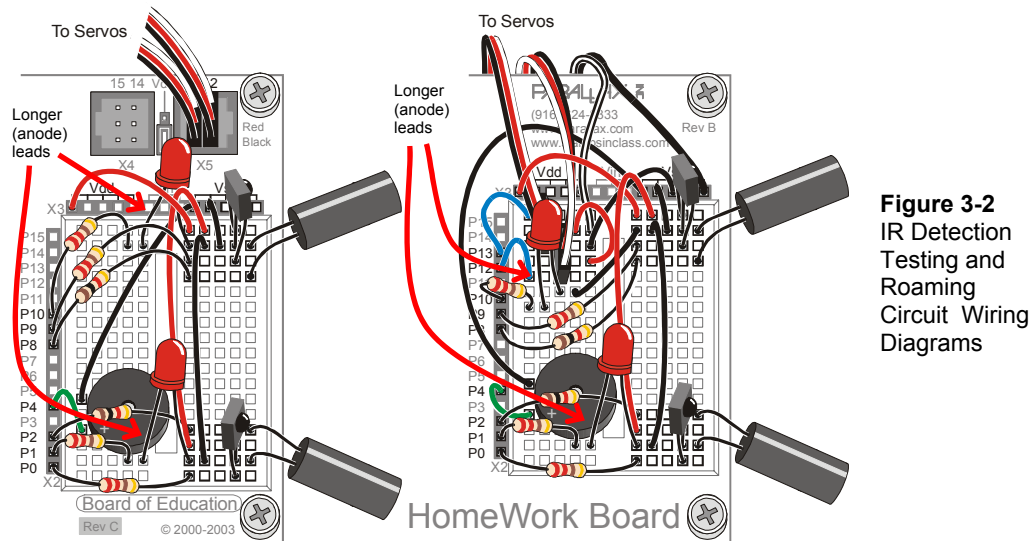

**Figure 3-2**
Figure 3-1 shows the circuits for IR detection and user indicators from *Robotics with the Boe-Bot*, Chapter 7, Activity #2, and Figure 3-2 shows a way to build these circuits with wiring diagrams.
- ✓ Build the circuits shown in Figure 3-1 and Figure 3-2.